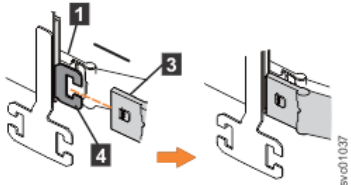

Figure 75. Install the outer connector of the upper CMA to the outer member of the support rail
3. Install the outer connector of the upper CMA assembly (3) to the outer member of the left support rail (4), as shown in Figure 75 on page 65.